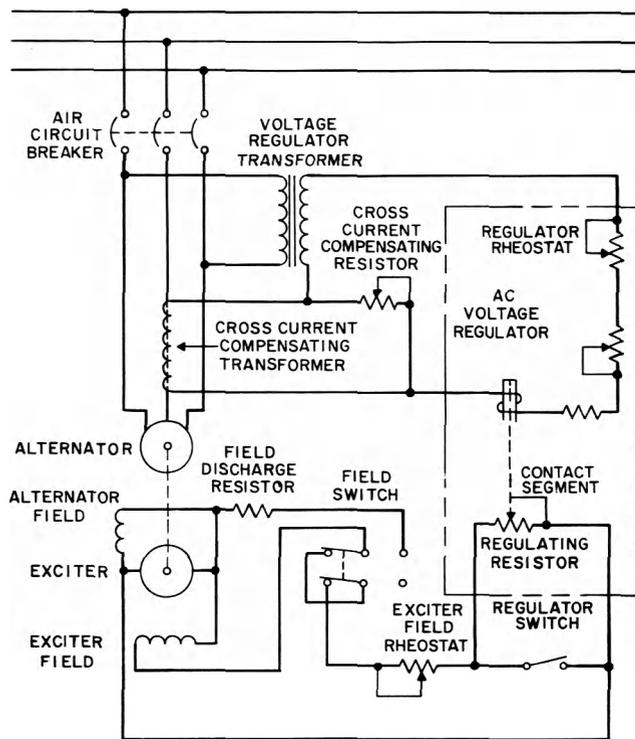

Fig. 4 — Voltage Control Circuit — 30-, 40-, and 60-kw Sets — Schematic — 3 Phase
2.19 Placing Regulator in Service: Fig. 4—